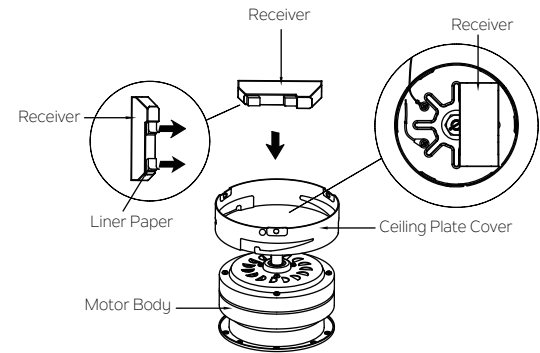

Fig. 10
Step 4. Peel off the liner paper on the receiver, secure the receiver in place on the mounting plate cover, and keep flat in opposition of ceiling. (Fig. 10)